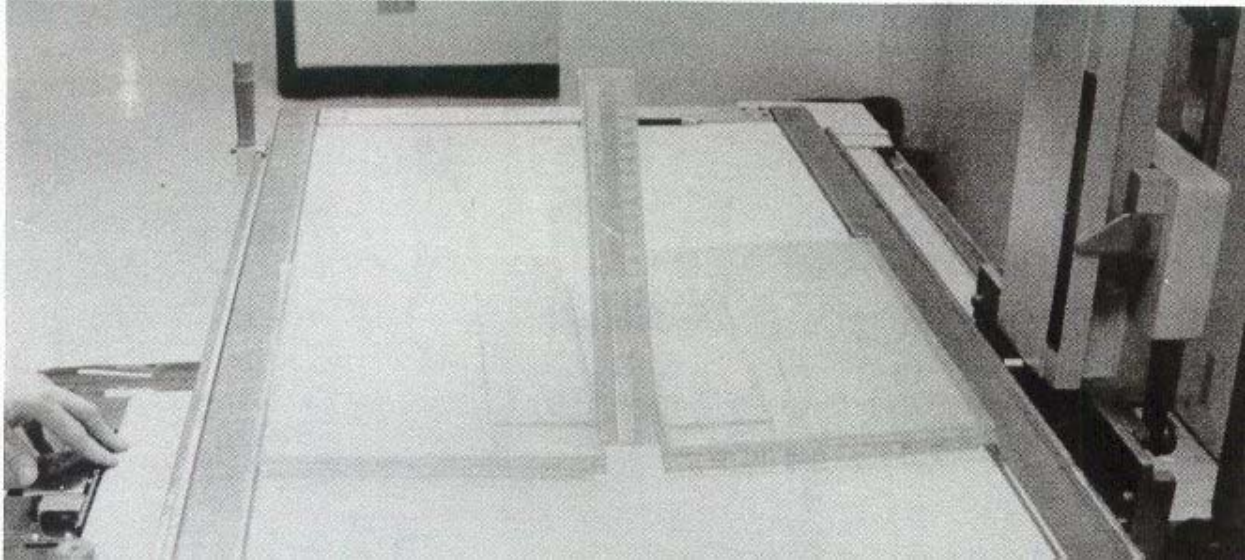

Figure 6-8. Tomographic wedge parallel to the direction of the tube travel.
- (1) Position the tomographic test tool.
- (2) Align the 12.5 cm mark on the scale to be coincident with the central ray.
**NOTE:** For linear systems, the test tool should be oriented so that the scale is parallel to the direction of the tube travel (see figure 6-8).
- (1) Tomographic motion.
- (2) Sweep speed.
- (3) Exposure angle.